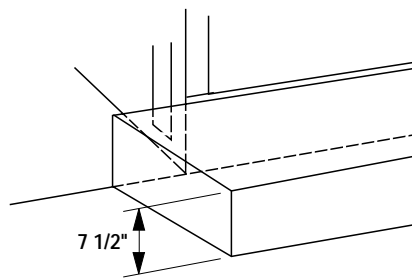

Figure 49
**WARNING: WHEN INSTALLING HEARTH EXTENSION IN FRONT OF A NON-CIRCULATING FIREPLACE MODEL, THE FIREPLACE MUST BE RAISED IF HEIGHT OF HEARTH EXTENSION EXCEEDS 7" ABOVE THE BOTTOM OF FIREPLACE (FIGURE 49).**